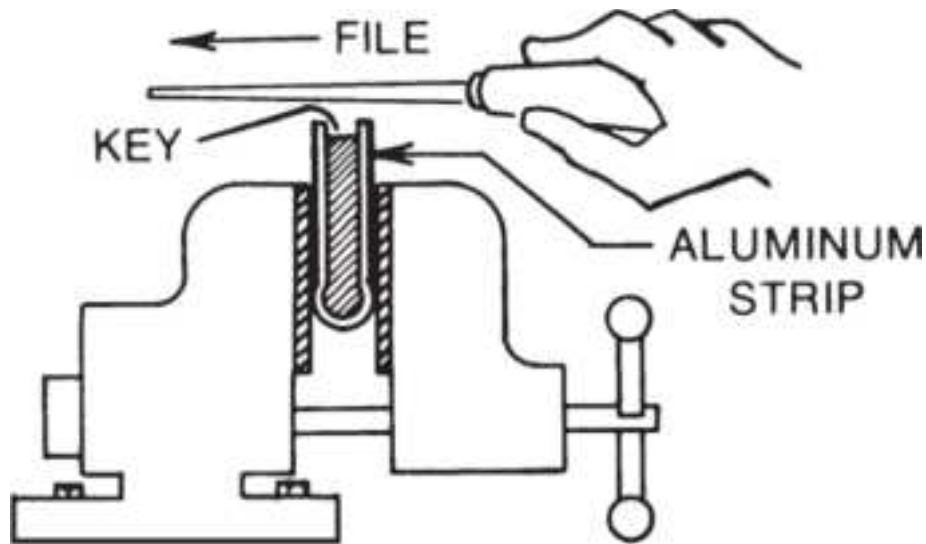

**Figure 4.9** File into the aluminum strip in the direction shown.
2. Wrap a strip of aluminum approximately 1½ inches × 2¼ inches or 2½ inches around the pin and bit of the original key with one edge against the collar (Fig. 4.9).